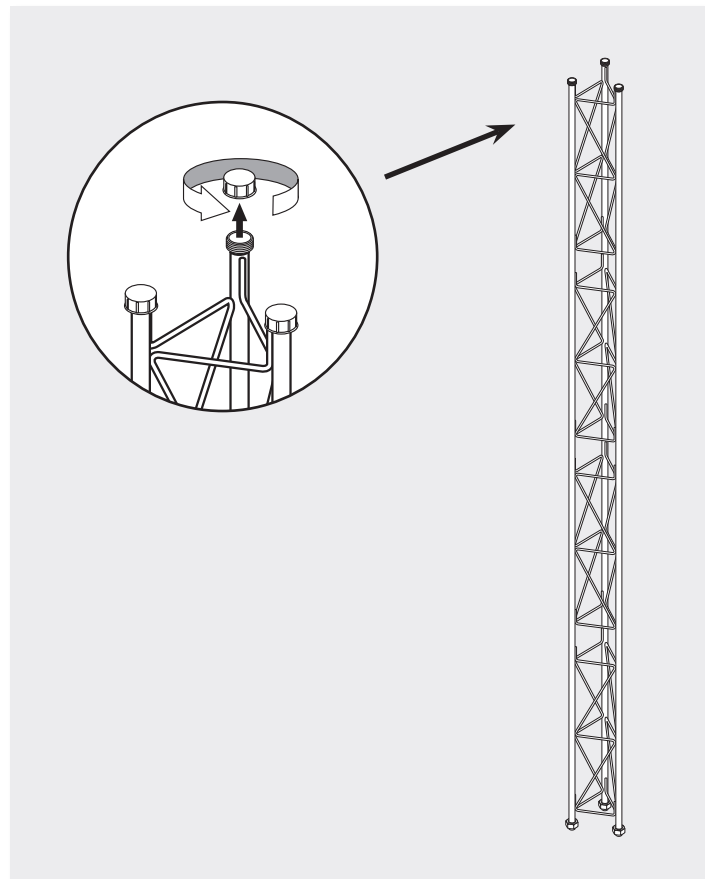

Fig. 1
- Once on erecting site and before mounting the tower, you must proceed to remove all plugs(ver fig. 1)